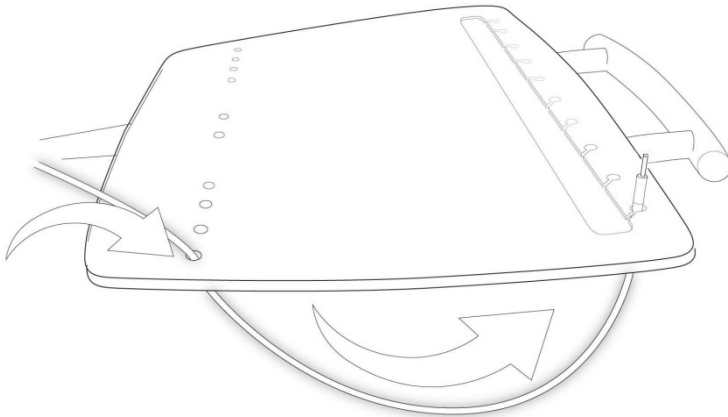

Figure 10: Passing optical fibers through the trolley's support tray
- ii. Secure the optical fibers in its corresponding groove at the front of the tray (Fig. 10).